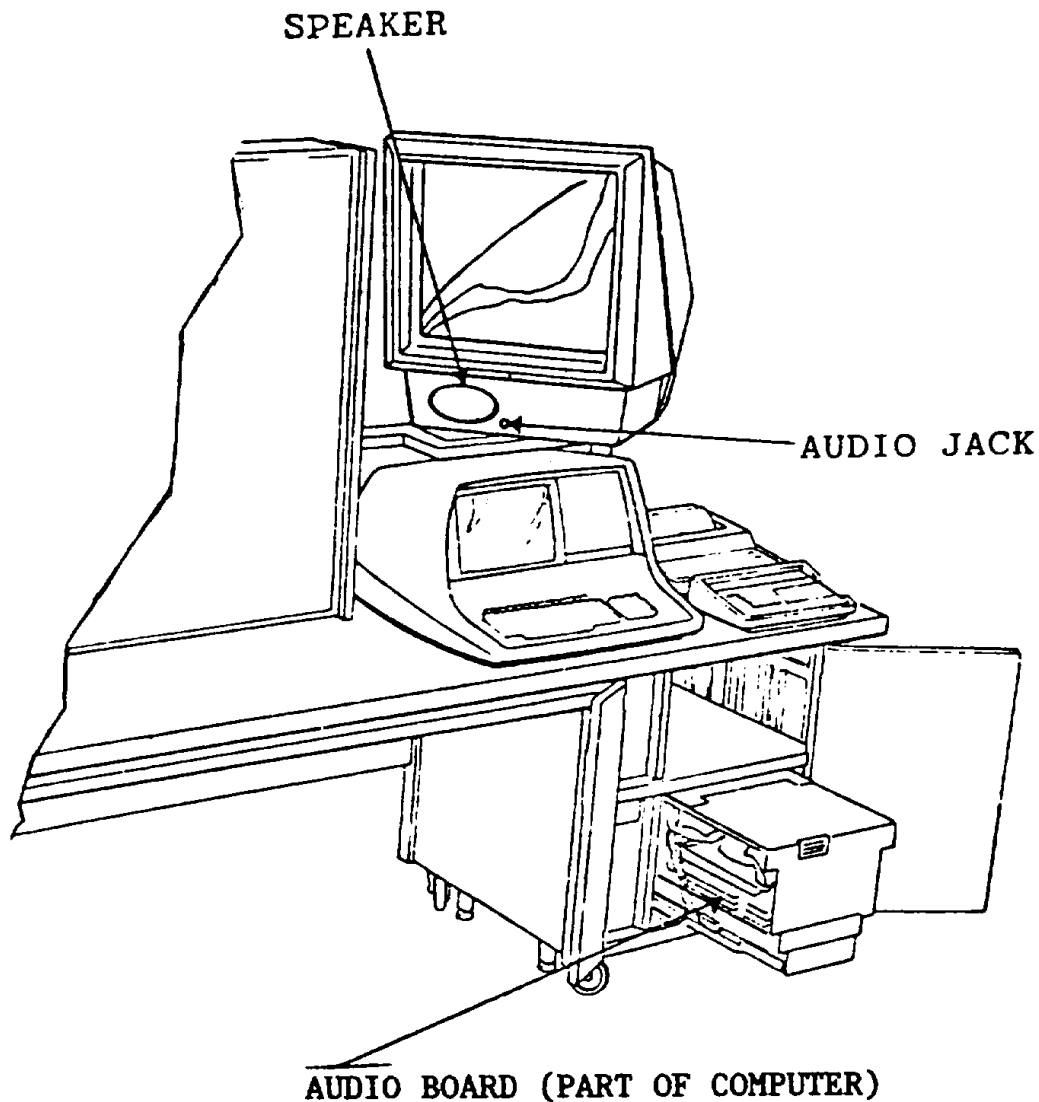

Figure 1-7. Aural Device
h. Aural Device. The aural device (fig. 1-7) consists of a printed circuit board (part of computer), a speaker, and headphones that provide sound effects simulating the noises that occur in the tank. Three sounds are generated by the aural device:
- (1) Auxiliary hydraulic motor.
- (2) Coax solenoid clicking.
- (3) Turret vent blower.